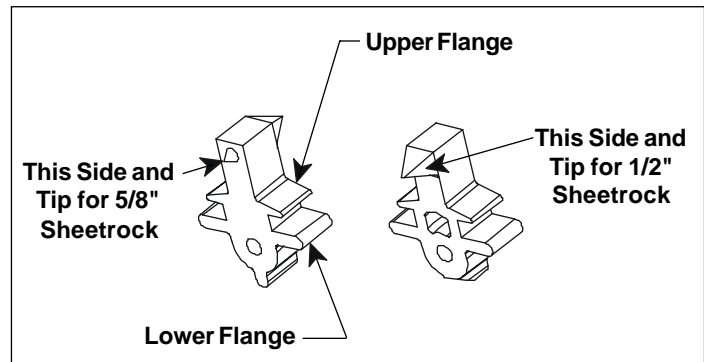

Figure 2. Cleat Orientation
- a. For 1/2" sheet rock face the large side of the cleat towards you (see Fig. 2).
- b. For 5/8" sheet rock, face the small side of the cleat towards you (see Fig. 2).